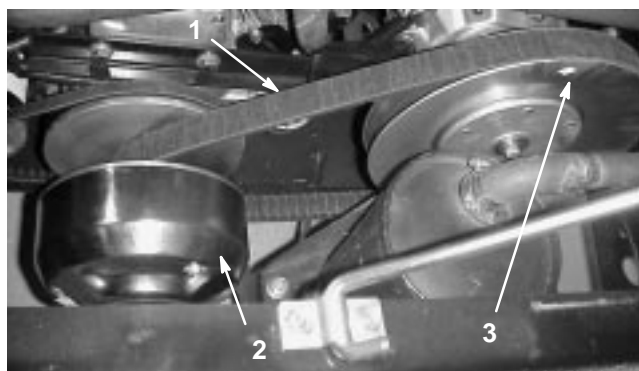

Figure 27
1. Rotate and route the belt over the secondary clutch (Fig. 27).
2. Remove the belt from the primary clutch (Fig. 27).